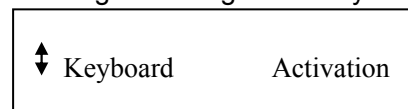

Figure 10: Keyboard activated menu
1. Press upper key to enter the keyboard for once (see Figure10). If the display appears in the upper-right corner is activated, the Keyboard is not locked.